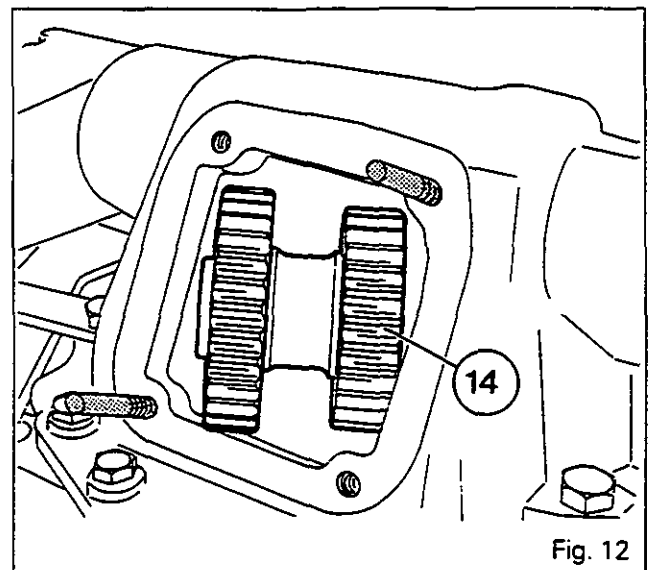

Fig. 12
70. Withdraw the compound pinion assembly (14) (through the aperture of the spool valve support for version without shimming only) (Fig. 12).
71. Remove the needle roller bearings (17) and (20) and the spacer (19) of the pinion (18).